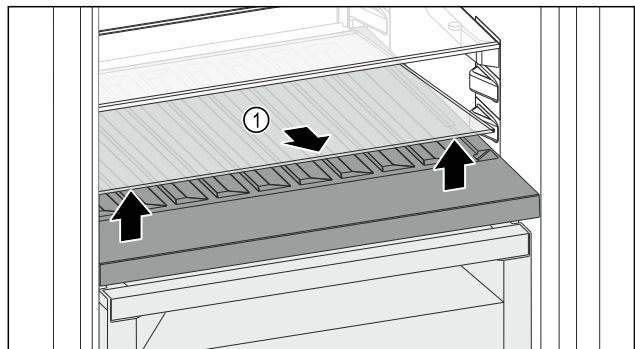

Fig. 136
- ▶ Lift the glass shelf Fig. 136 (1) at the front and remove.
- ▶ Store the glass shelf Fig. 136 (1) in a safe place outside the appliance.
- ▶ Insert the glass shelf (2) under the variable bottle rack.